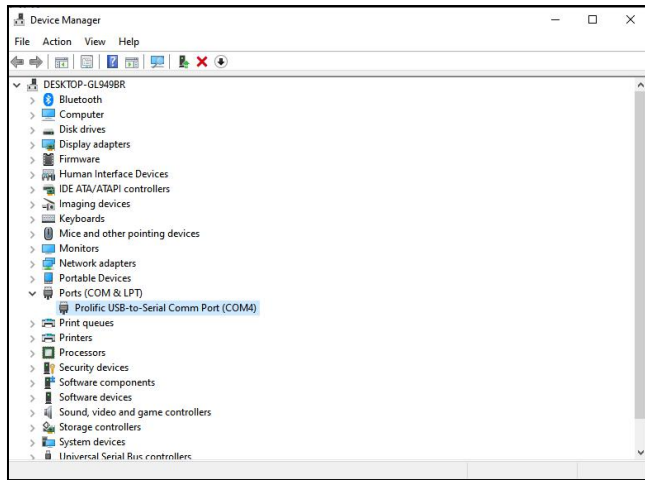

Fig. 39
3. use USB to RS232 line to connect the instrument and PC (RS232 interface to connect the instrument, USB connector to connect the PC), as shown in Fig 39